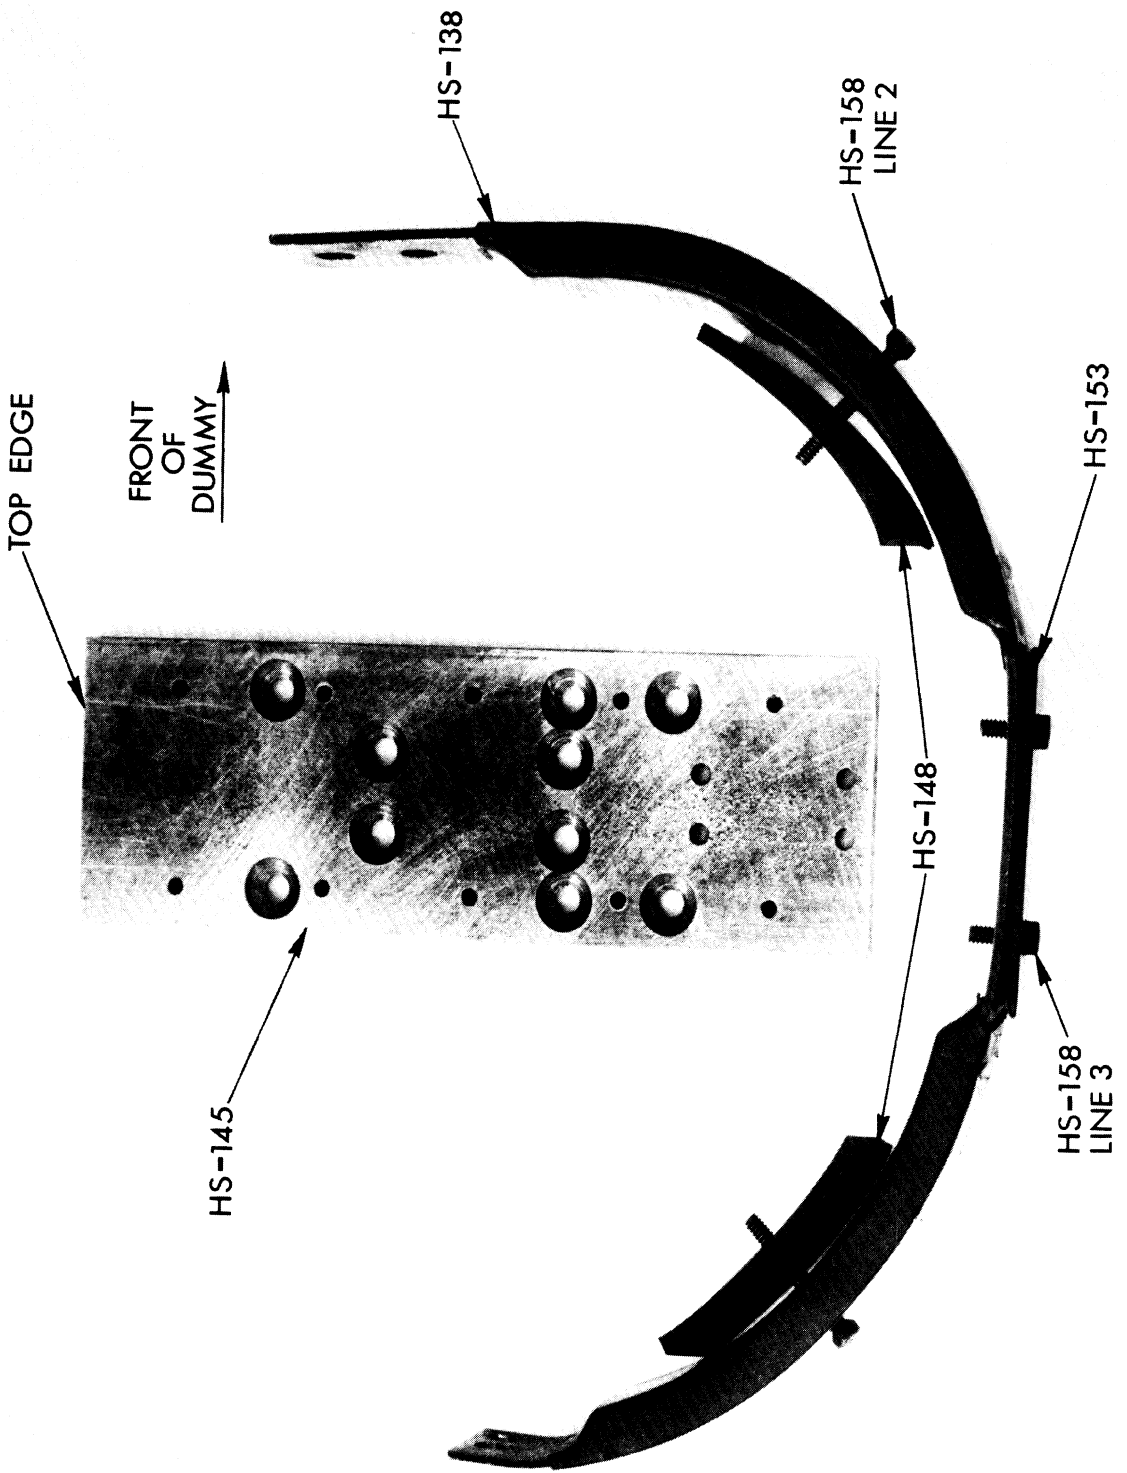

FIGURE 10
7.) Remove the ten 6-32 tapered head socket screws on each side of the thorax fastening the ribs to the rib bars. Reference Figures 10, 11, and 16.